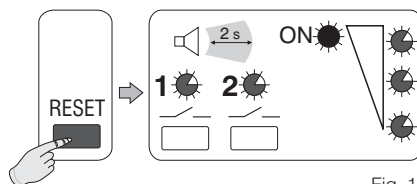

Fig. 18
- Briefly press the **"RESET"** key: when it is released, all the **LEDs** will light together with a **beep** and the **ON LED** will be **steady lit** (fig. 18).